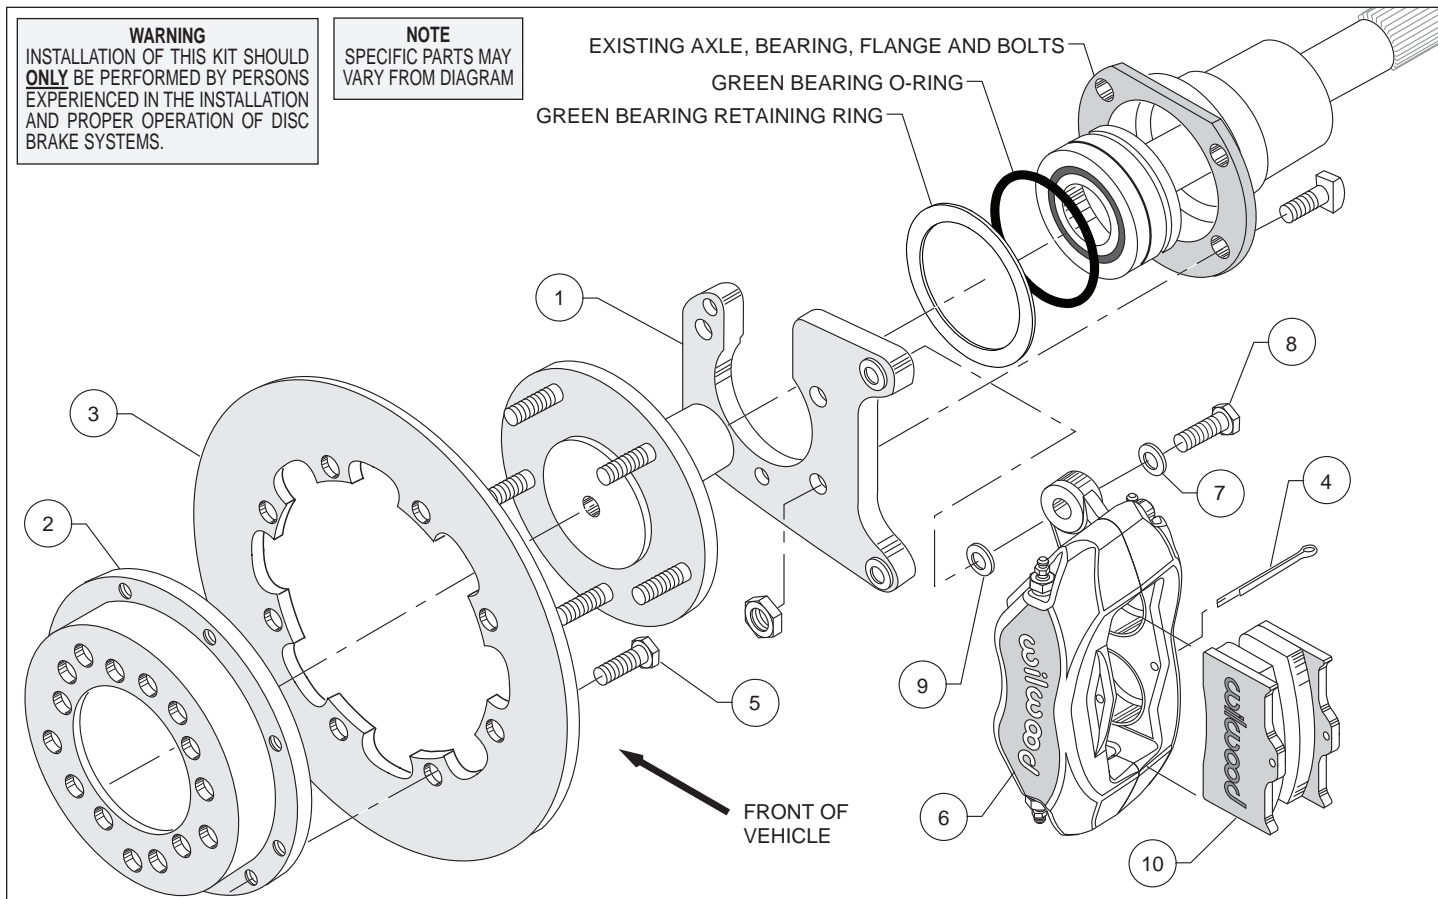
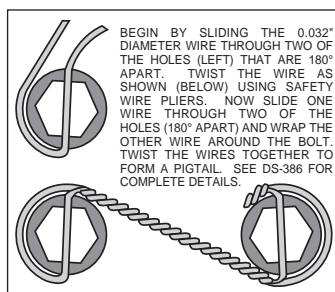

Figure 3. Typical Installation Configuration
Figure 6. Safety Wire Diagram
•Temporarily remove the retaining ring and o-ring from the bearing. Use care so as not to damage those components. Orient the bracket assembly (1) as shown in Figure 3 and slide it onto the axle and past the bearing. Reinstall the retaining ring and o-ring onto the bearing, again using care. Insert the axle and bracket assembly into the axle housing. Ensure that the bracket assembly plate fits flush against the axle housing flange. **NOTE:** The bearing retaining ring should be sandwiched between the axle housing flange and the new bracket assembly. Secure bracket assembly to the axle housing flange using the Original Equipment Manufacturer (OEM) bolts and nuts, Figure 3. Stock OEM hex nuts that retain the bracket (1) should be on the wheel side of the bracket. Apply red Loctite® 271 to the OEM bolt threads and torque to OEM specifications. **NOTE:** Make sure the heads of the caliper mounting bracket insert nuts are FACING OUTWARD TOWARDS THE WHEEL.
•Orient the rotor (3) and the hat (2) as shown in Figure 3. Attach rotor to hat using bolts (5). Using an alternating sequence, apply red Loctite® 271 to the threads, and torque bolts to 25 ft-lb. Safety wire bolts (5) using standard 0.032 inch diameter stainless steel safety wire as shown in Figure 6. Please refer to Wilwood's data sheet DS-386 (available at www.wilwood.com/Pdf/DataSheets/ds386.pdf) for complete safety wire installation instructions.
•Align the correct hole pattern in the hat (2) with the stud pattern on the axle flange and slide into place, Figure 3. **NOTE:** The rotor/hat must fit flush against the axle flange or excessive rotor run out may result. Install three lug nuts (finger tight) to keep the rotor/hat assembly in place while continuing with the installation. **NOTE:** Some OEM and after market axles come with stud sizes larger than 0.50" diameter. Verify stud size and have a qualified machine shop drill the bolt circle of the hat/rotor to the correct stud size, if necessary.
•**NOTE:** Please reference the caution statement at the beginning of the assembly instructions. Mount the caliper (6) onto the caliper mounting bracket (1) using bolts (8) and washers (7), as shown in Figure 3. Initially place one .032" thick shim (9) on each bolt between the caliper and the bracket, Photo 1. Temporarily tighten the mounting bolts and view the rotor (3) through the top opening of the caliper. The rotor should be centered in the caliper, Photo 2. If not, adjust by adding or subtracting shims